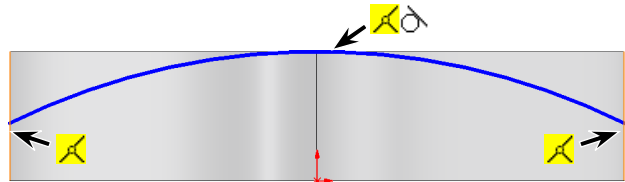

**Fig. 10**
Step 1. Click **Front Plane**  in the Feature Manager and click **Sketch**  on the context toolbar, **Fig. 10**.